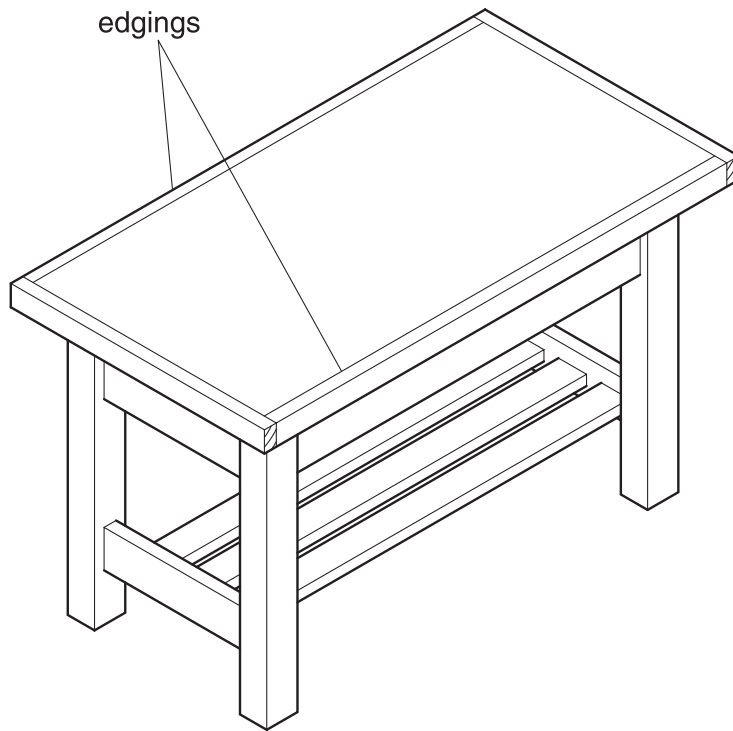

Fig. 8
- 11 Fig. 8 shows a small table. The underframe is solid wood. The top of the table is made from 18 mm plywood which has been veneered with hardwood. The edgings are solid hardwood 10 mm thick.